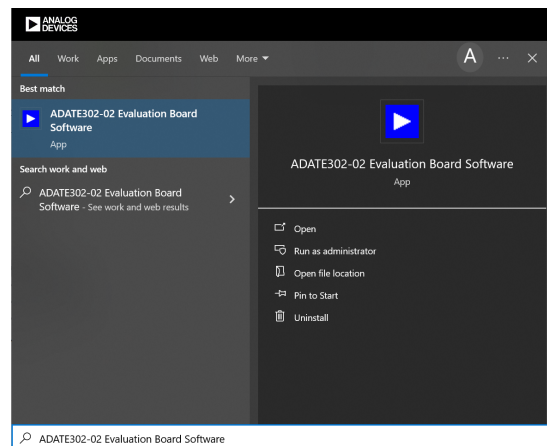

Figure 3. Windows Search
- ▶ Search for the **ADATE302-02 Evaluation Board Software** using the Windows search feature, and then select the **ADATE302-02 Evaluation Board Software** in the **Results** pane (see Figure 3).